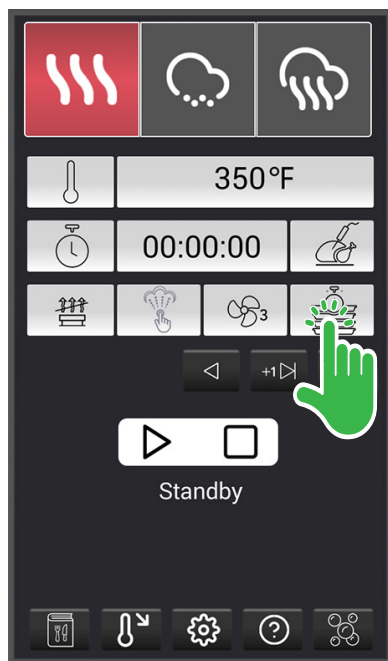

Fig. 49
1. From the **Home Screen** (Fig. 49), touch the multi-timer button. The **Multiple Position Timer Screen** will be displayed.